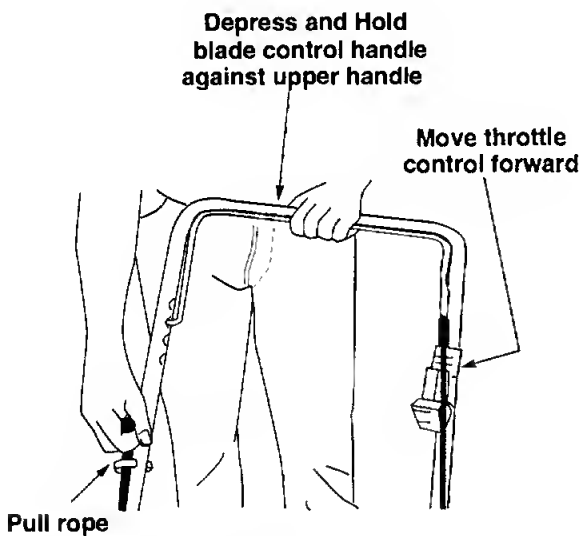

Figure 12
- Standing behind the unit, depress the blade control handle and hold it against the upper handle. See figure 12.
- Grasp starter handle and pull rope out slowly until engine reaches start of compression cycle (rope will pull slightly harder at this point). Let the rope rewind slowly. Then, pull rope with a rapid, continuous, full arm stroke. Keep a firm grip on starter handle. Return it slowly to the rope guide. See figure 12.